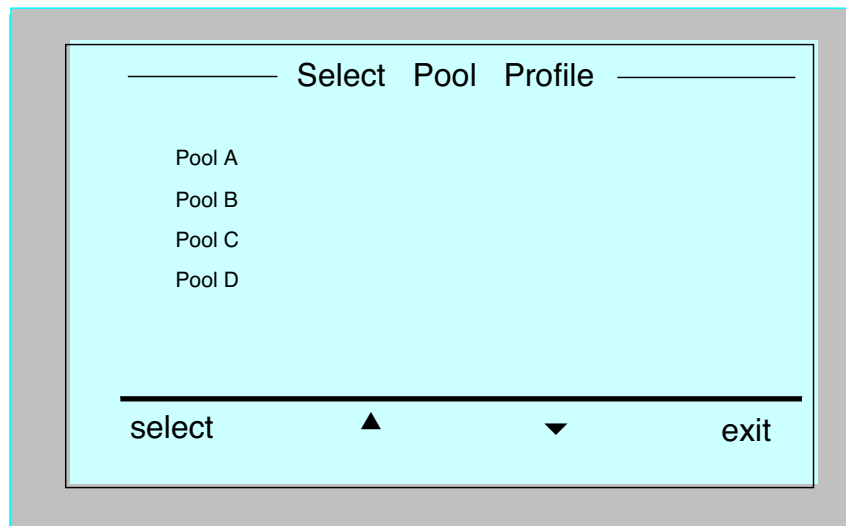

Figure 10: Pool Profile screen
2. From the *Wave* screen, press **Pool A**. The *Pool Profile* screen opens (Figure 10).